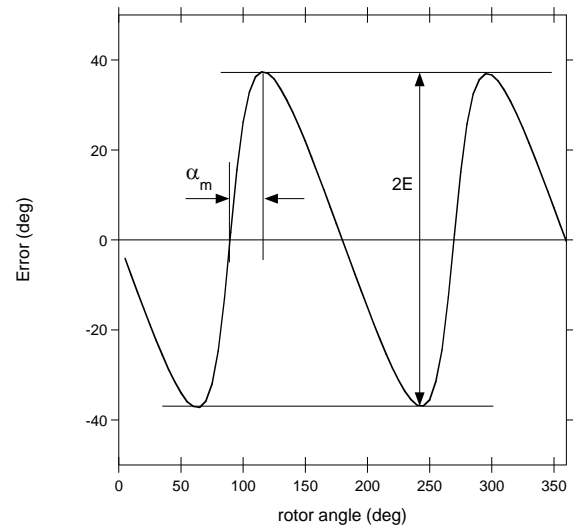

Figure 22: Error Curve in Side-Shaft Configuration with BCT = 0
The ratio k depends on the magnet geometry and the distance to the sensor. Having a k ratio different than 1 results in the sensor output response not being linear with respect to the mechanical angle. Note that the error curve has the shape of a double sinewave (see Figure 22). E is the amplitude of this error.
It is possible to deduce the k ratio from the error curve obtained with the default BCT setting (BCT = 0). For this purpose, rotate the magnet over one revolution and record the MagAlpha output. Then plot the error curve (the MagAlpha output minus the real mechanical position vs the real mechanical position) and extract two parameters: the maximum error E and the position of this maximum with respect to a zero crossing a_m (see Figure 22). k can be calculated with Equation (7):